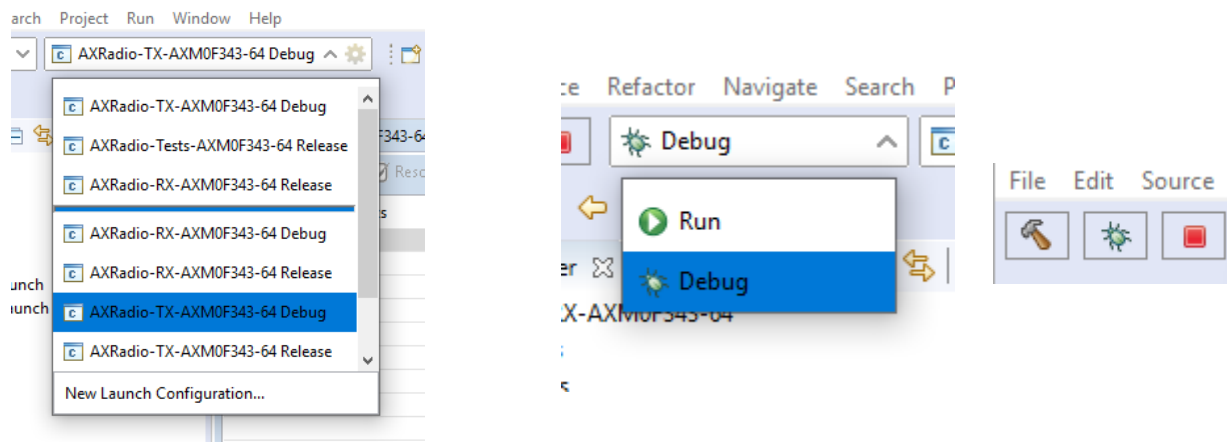

Figure 8 - Select Configuration and Build Project.
3. Select the *Examples* tab to the right to view all the available applications for the selected board. (See Figure 8)
5. To build a project, as shown in Figure 8: